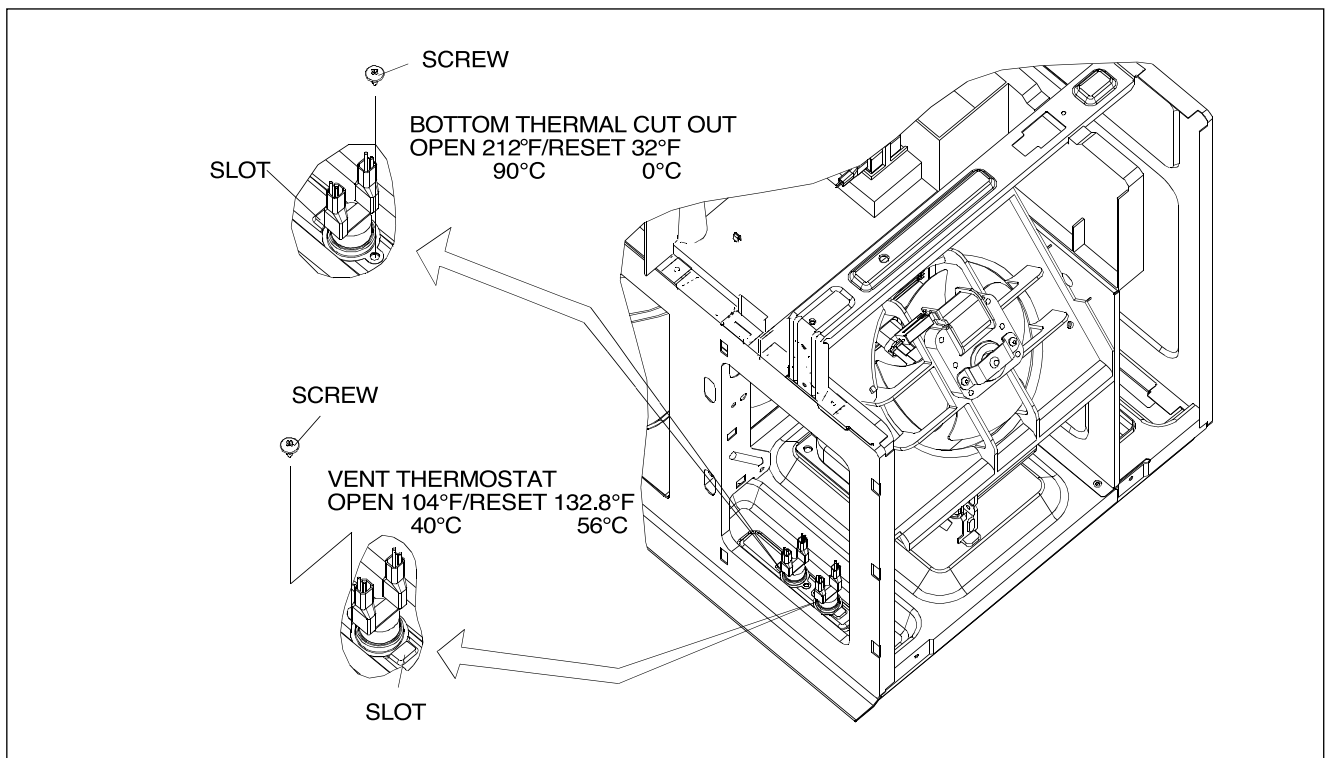

FIG. 8
5. From the top and back of the control panel, lift the top locking tab and pull the top of the panel out slightly, then lift bottom tabs of the panel out of the slots and pull it forward. Set the panel inside the oven cavity while you work. Refer to FIG. 8 and the inset for the following steps:
6. Remove the mounting screw from the bottom thermostat and lift the bottom flange out at slot in the chassis (See FIG. 8)